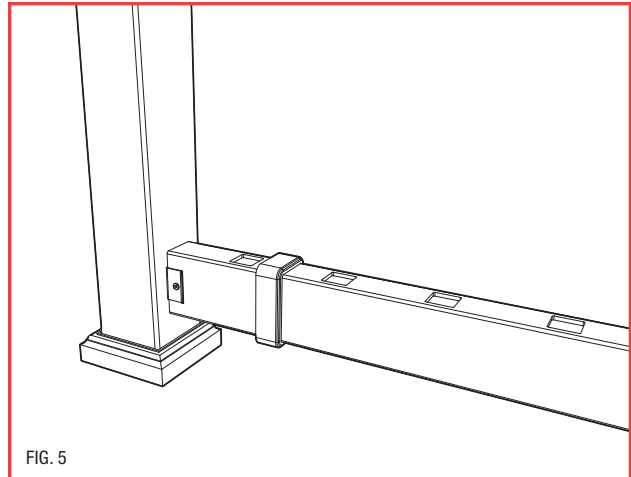

FIG. 5
7. Slide bottom bracket covers over the bottom rail and position the rail between the bottom rail metal brackets. (Fig. 5) Level the rail and secure in place on both sides of the metal brackets using two of the 1" screws provided. Snap the bracket covers over the metal brackets.